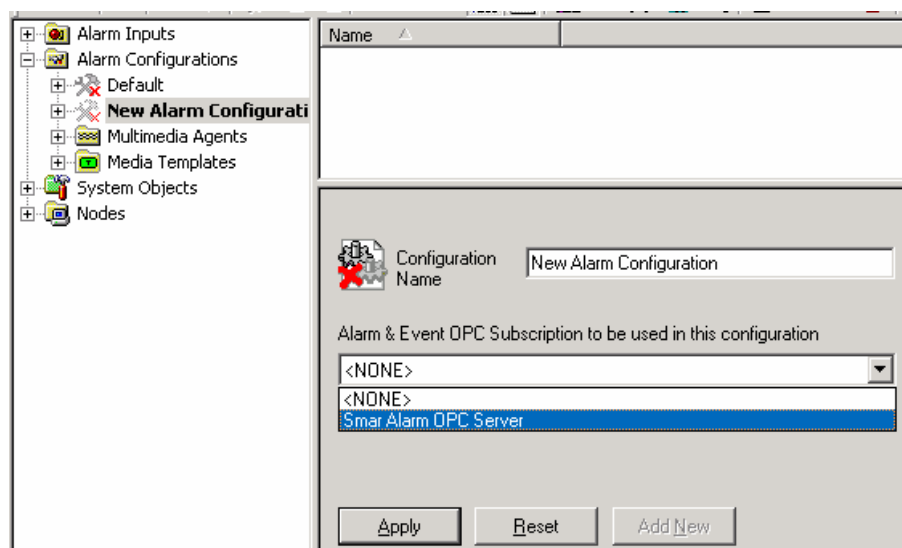

Figure 2.26. Choosing an OPC Subscription
2. Select the OPC subscription you wish to use from the drop-down list, as shown in **Figure 2.26**.